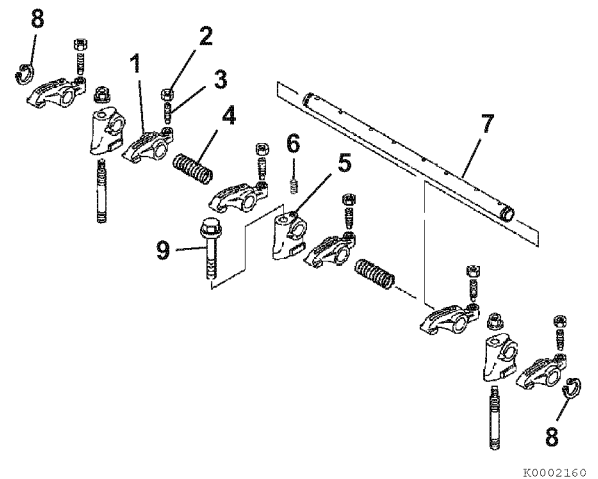

Figure 6-32
1. Lubricate the rocker arm shaft. Slide the rocker arm supports (Figure 6-32, (5)), springs (Figure 6-32, (4)) and rocker arms (Figure 6-32, (1)) onto the shaft.
2. Align the hole in the rocker arm shaft (Figure 6-32, (7)) and the hole in the rocker arm support (Figure 6-32, (5)). Reinstall the alignment set screw (Figure 6-32, (6)).
4. If removed, reinstall the valve adjusting screws (Figure 6-32, (3)) and lock nuts (Figure 6-32, (2)).